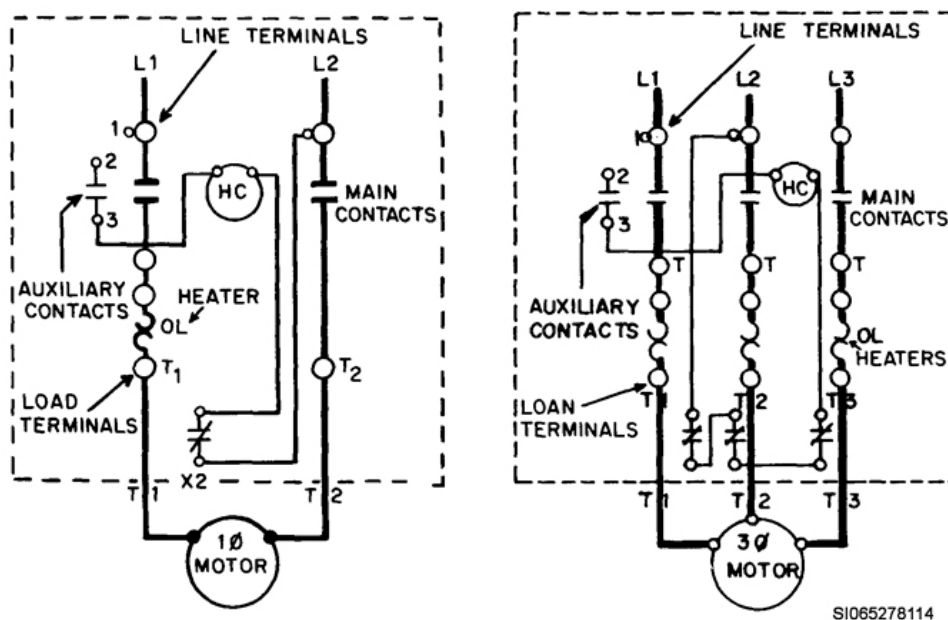
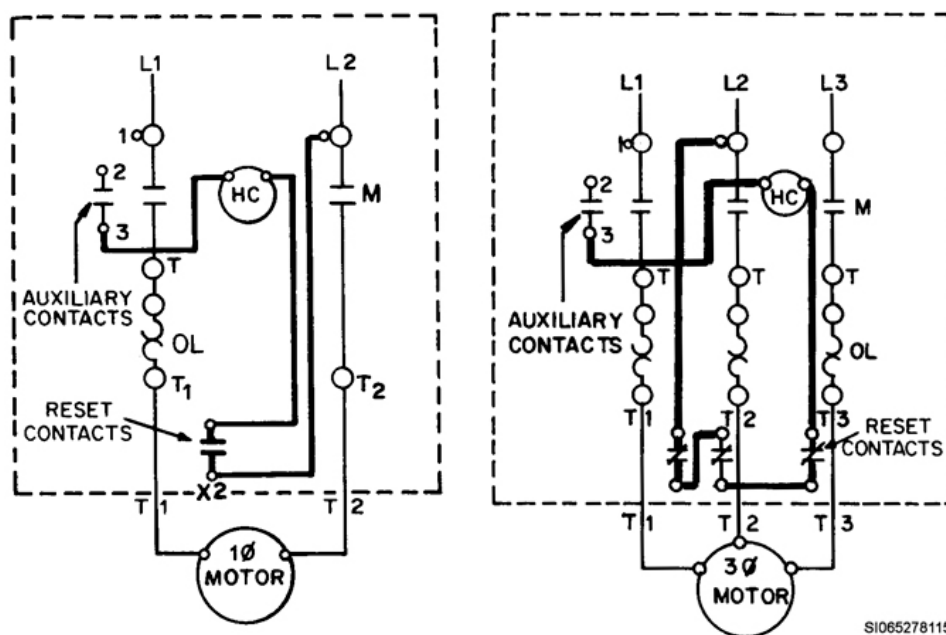

Figure 2-62. Connecting the load circuit in a magnetic starter.
Figure 2-63. Connecting the control circuit in a magnetic starter.
Connecting line starters varies only in the location of the terminals and when the starters are to serve different duties. Magnetic-line starters contain two electrical circuits: the load circuit and the control circuit. These circuits are factory wired. The load circuit contains the main or load contacts, the line terminals (L1, L2, L3), load terminals (T1, T2, T3), and the heater coil portion of the overload relay (OL) (fig. 2-62). Load circuit full-load amperage determines the size starter needed. It must have a larger rating than the connected motor. The control circuit (fig. 2-63) contains the holding coil (shown with the letters "HC" in the circle), overload relay reset contacts, and the auxiliary contacts. The control circuit is the portion of the magnetic starter that performs the function of starting, stopping, and protecting a motor. Control devices start, stop, or protect the motor. This could be a simple switch, start/stop station, or thermostat. These control devices allow the coil to energize or de-energize, depending on the situation. The overload contacts work with the current-sensing device that is in the load circuit. The current-sensing device causes the overload contacts in the control circuit to open when there is an over current condition. When these contacts open, the coil de-energizes, and the main contacts open and prevent line voltage from reaching the motor. This is how the motor, or load, is protected from excessive current/temperature. Removing line voltage from the load causes it to stop operating. These control devices are generally connected using a 2- or 3-wire circuit.